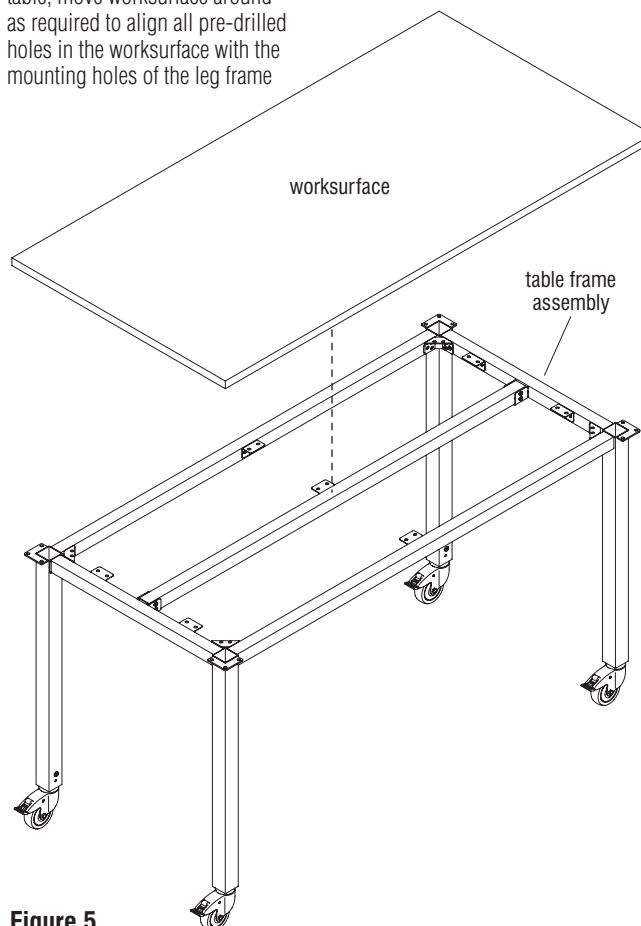

Figure 5
2. Carefully turn the table frame assembly to the upright position (Figure 5).
3. With the assistance of two or more people, carefully position the worksurface onto the table frame assembly (Figure 5).